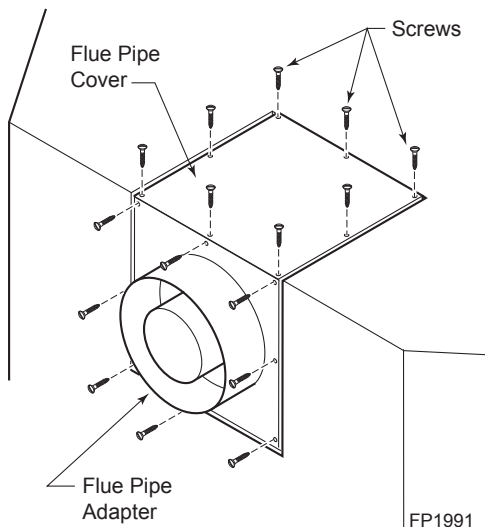

Figure 8 - Remove 16 Screws from Flue Pipe Adapter and Flue Pipe Cover
1. Remove the eight (8) screws securing the flue pipe adapter to the fireplace body. *Figure 8*
3. Remove the eight (8) screws securing the flue pipe cover to the top of the intake box and remove the cover and gasket. *Figure 8*